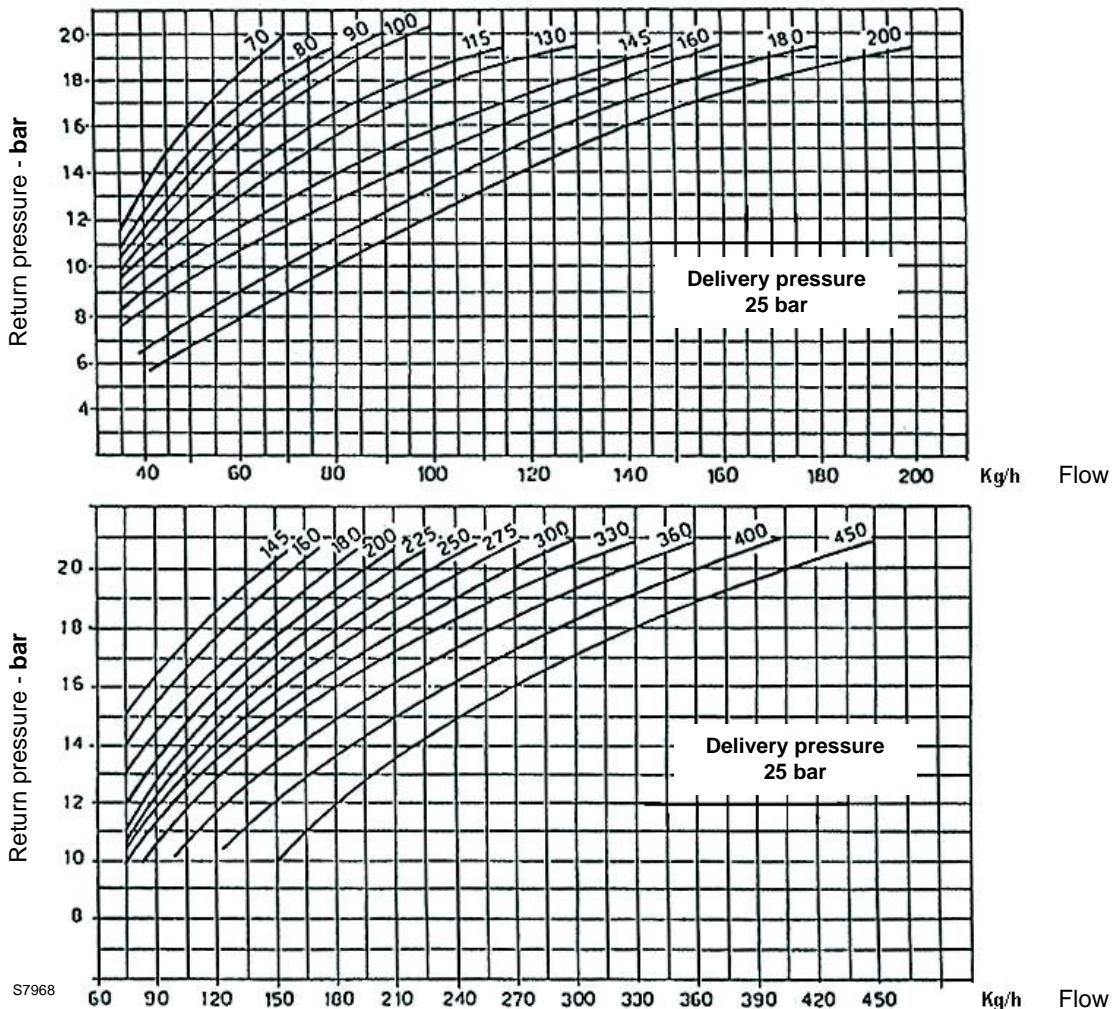

Fig. 10
- When the adjustment has been made, manually check that there is no knocking between 20° and 130° and that maximum and minimum pressures match pre-selected values as indicated on the graph Fig. 10.